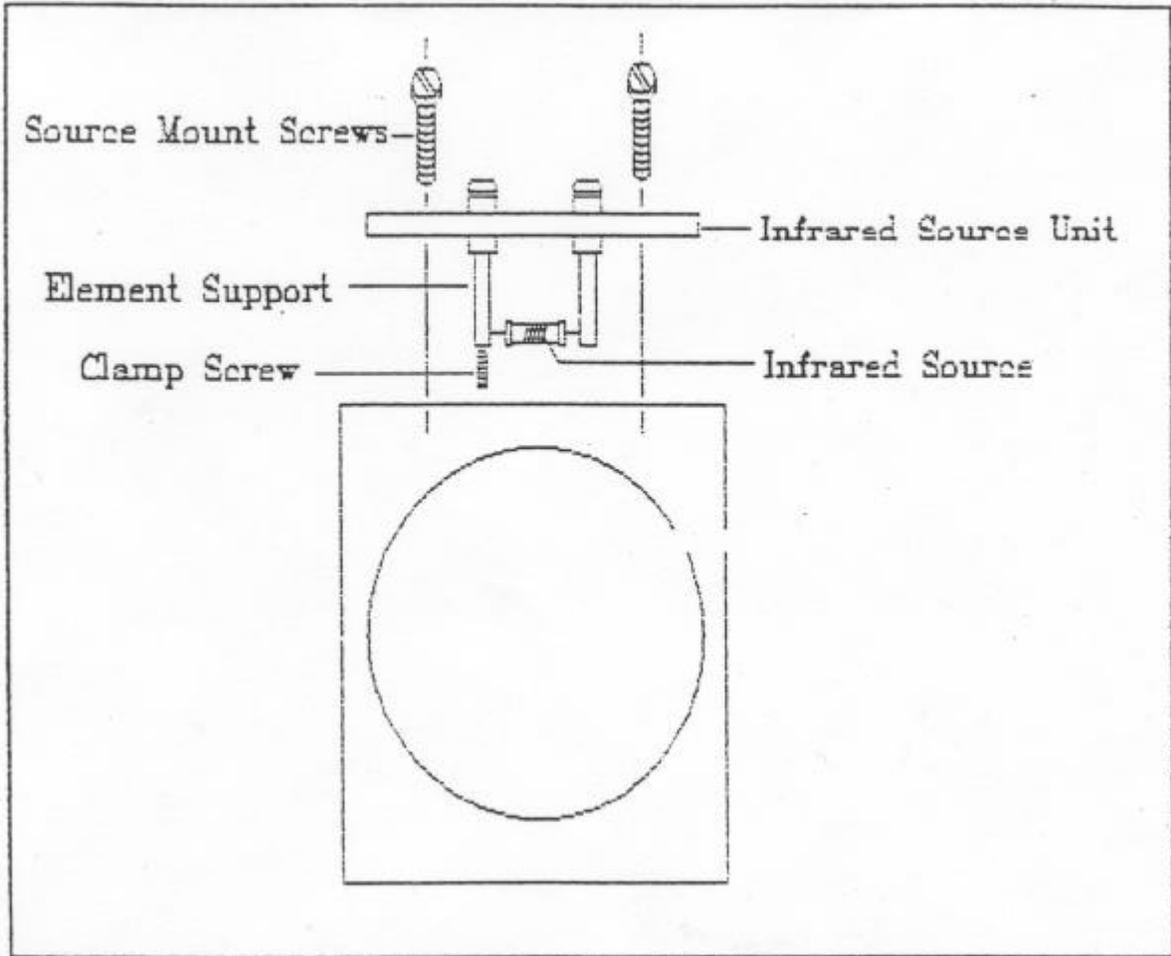

Figure S.1.3.1
**S.1.3.5 REPLACING THE IR SOURCE - See Figure S.1.3.1.**